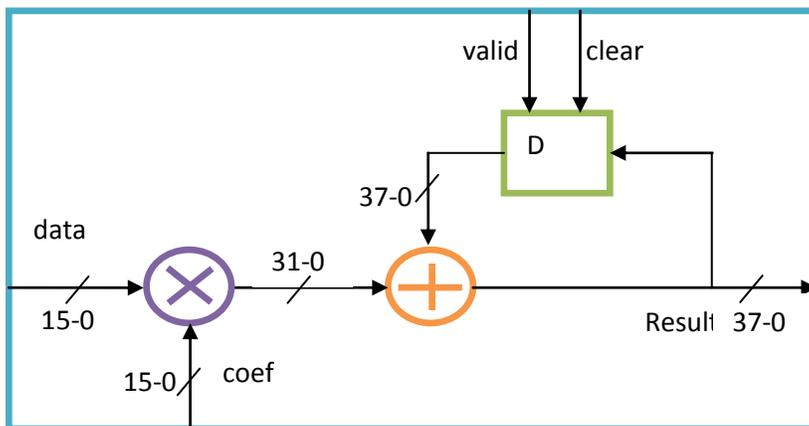

Figure 3.4 MAC unit's Word Length
In MAC unit, the word length (WL) of input data are INPUT_WIDTH bits, and the coefficient's WL are COEFF_WIDTH bits. In order to guarantee the full precision, the multiplier's WL should be INPUT_WIDTH + COEFF_WIDTH. For adder and D-flipflop, their WLs should be INPUT_WIDTH+COEFF_WIDTH+LOG2_ORDER. Therefore, the final result's WL is INPUT_WIDTH+COEFF_WIDTH+LOG2_ORDER. The actual word length value is shown in Figure 3.4.